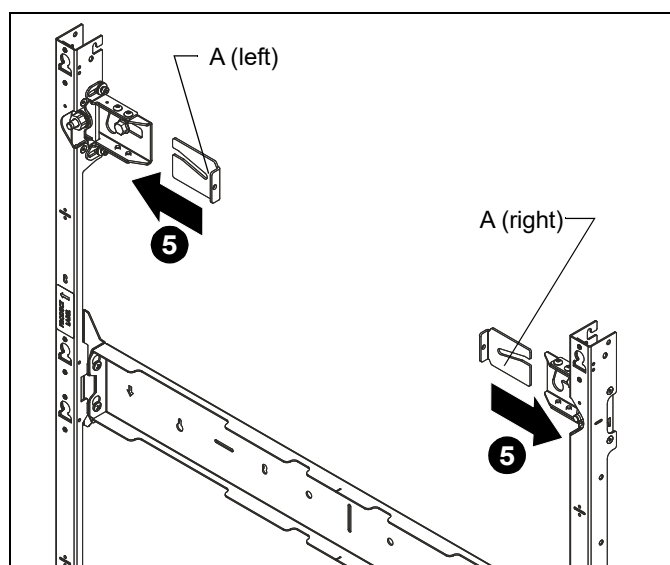

Figure 11
5. Slide the left (A-Left) and right (A-Right) adjustment washers into place behind and partially install lag screws. (See Figure 11)